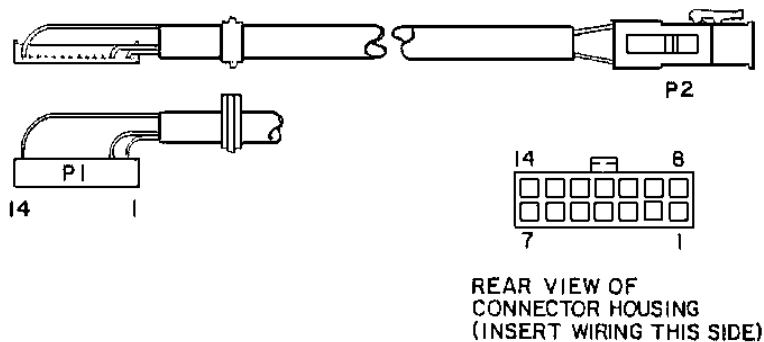

Figure 8- Option Cable Pin Locations
The option cable kit brings all option connections from the System Board through the back of the radio to the outside. This cable is required with all external options. Supplied with the option cable is the empty connector housing which plugs into P2 of the option cable. Pins supplied on the ends of the wires of each option (Molex #39-00-0060) are inserted into this connector housing. Refer to the inter-connection diagrams at the back of this manual. See Figure 8 for pin locations. Table 2 lists wire connections and functions.
3. Pins are supplied on the ends of the external speaker cable option PMCC9M. Push these pins into sockets 2 and 9 of the connector housing supplied with the option cable. Refer to Figure 8 and Table 2.